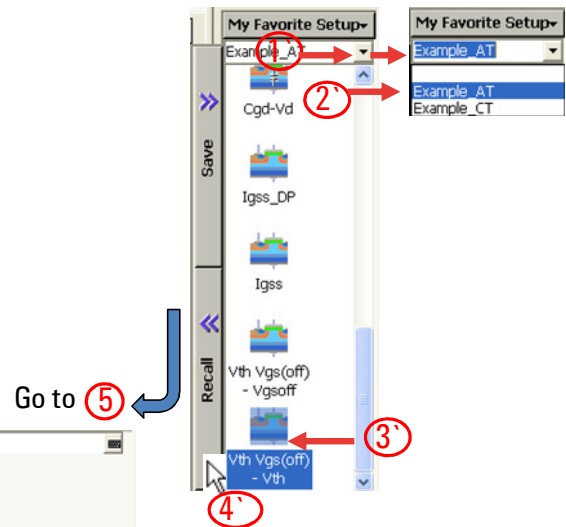

Figure 3-13. Vth test setup of "Vth, Vgs(off)" Application Test.
Setup and execute the test by following the next steps. The same instruction steps are illustrated by the numbers on the "1. Starting from Application Test Library" side of figure 3-13
Step 5. Set the test parameters shown in figure 3-13 to an appropriate one depending on your B1505A configuration and your test device.
Setup and execute the test by following the next steps. The same instruction steps are illustrated by the numbers on the "1`. Starting from Application Test Library" side of figure 3-13.